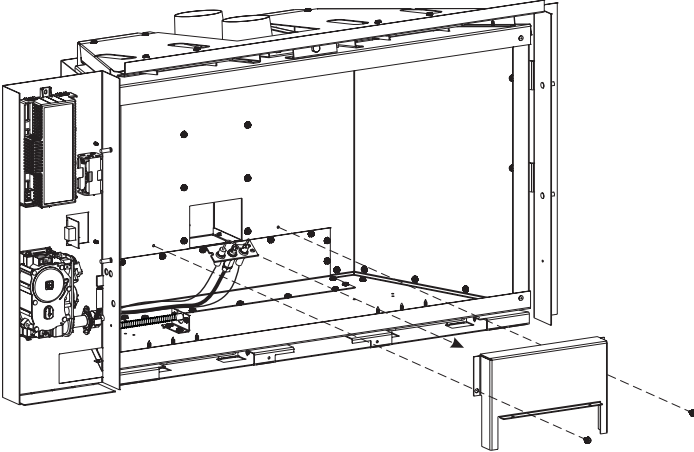

Figure 41
15. Remove the two screws securing the “air box” to the rear of the firebox. Remove the “air box” and set aside. **See Figure 41.**